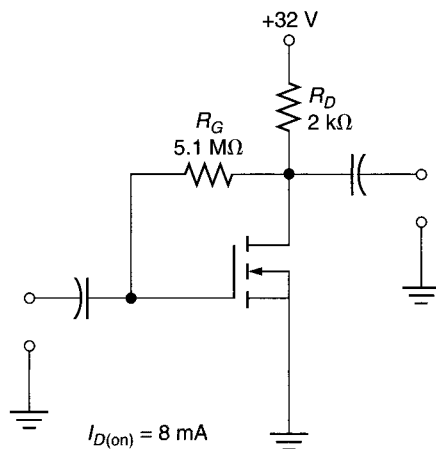

FIGURE 13.29
11. Calculate the values of  $I_D$  and  $V_{DS}$  for the amplifier in Figure 13.29.
Assume that the rated values of  $I_{D(on)}$  in Figures 13.29 through 13.34 were measured at  $V_{GS} = V_{DS}$ .